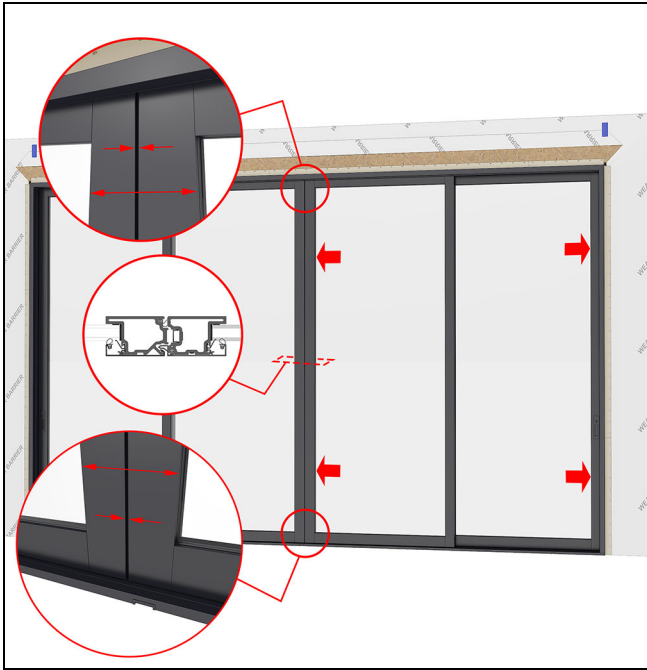

Figure 170
12. Close and lock the second operator panel. Check all reveals and adjust as necessary. See Figure 170.